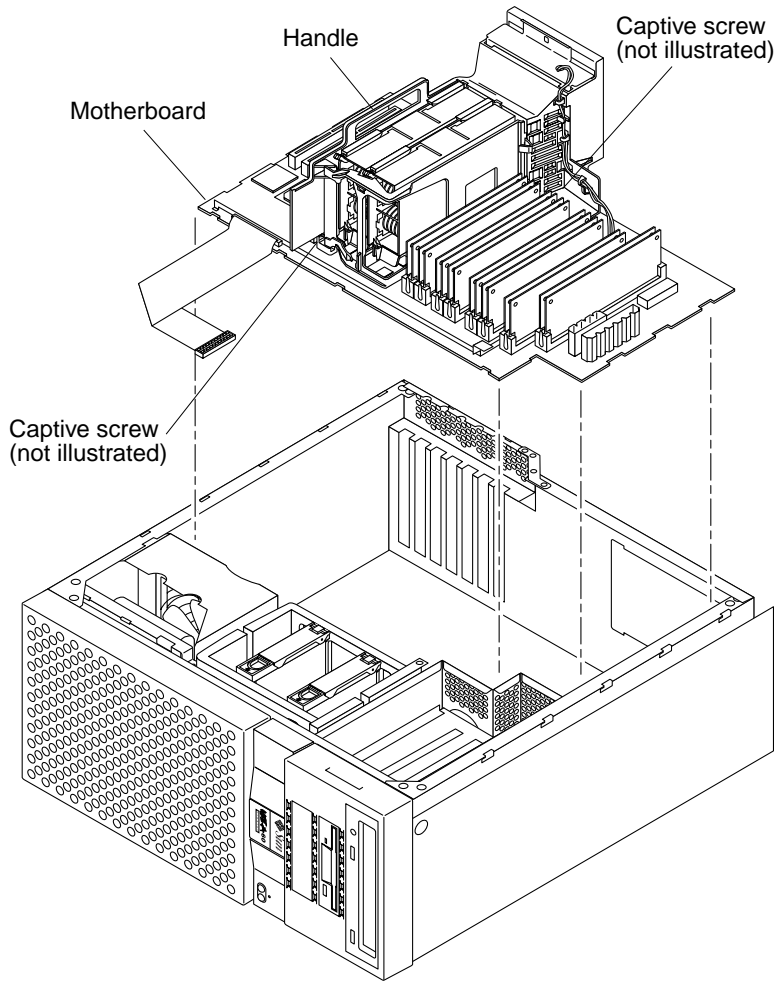

FIGURE 10-8 Removing and Replacing the Motherboard (Part 2 of 2)
- Loosen the two captive screws (until they pop up) securing the shroud assembly and the motherboard to the chassis (FIGURE 10-8).
- Tighten the two captive screws securing the shroud assembly and the motherboard to the chassis (FIGURE 10-8).